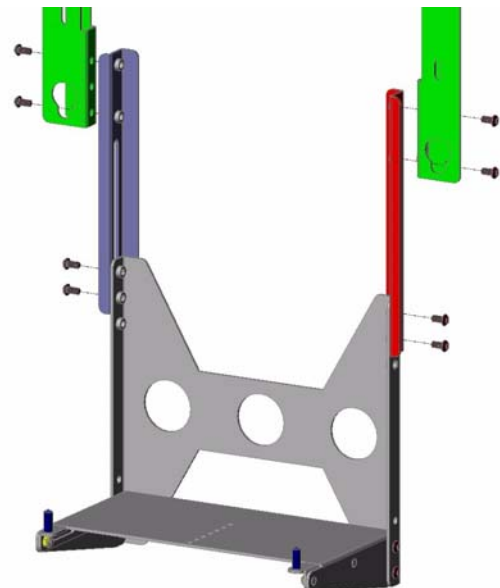

Figure 5. Install Uprights
3. Install left upright (30) on left speaker mount button support (10) using two 1/4-20X1/2" button head cap screws (160) (see Figure 5).
4. Install right upright (40) on right speaker mount button support (20) using two 1/4-20X1/2" button head cap screws (160) (see Figure 5).
5. Install height adjustment assembly (50) on left upright (30), with left speaker mount button support attached, using two 1/4-20X1/2" button head cap screws (160) (see Figure 5).
6. Install height adjustment assembly (50) on right upright (40), with left speaker mount button support attached, using two 1/4-20X1/2" button head cap screws (160) (see Figure 5).